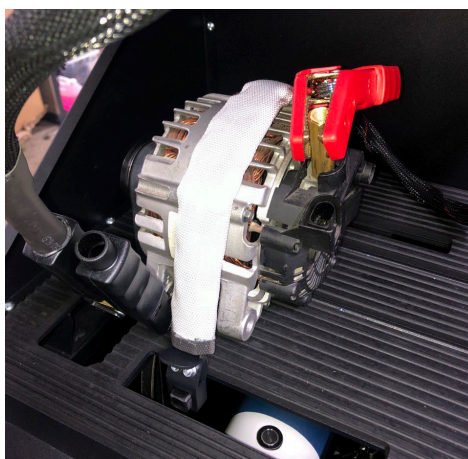

Figure 13. Connection of Power Wires to the Alternator
7. Connect the black power wire "B-" to the unit's housing and the red power wire "B+" to the adapter (see Fig. 13).